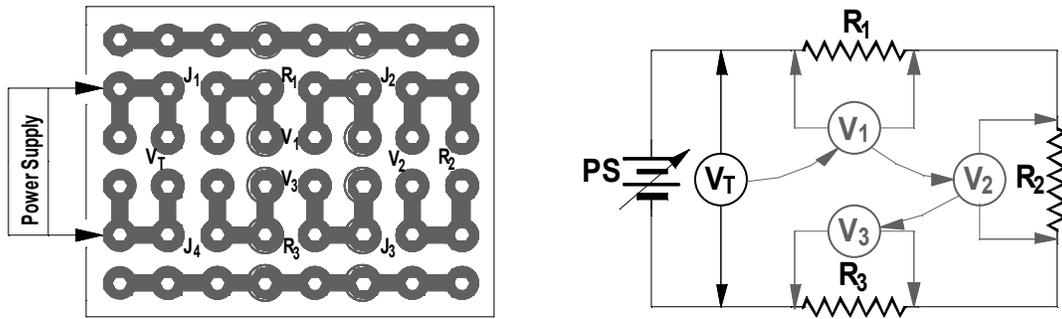

Figure 11. Wiring aid and schematic diagrams for measuring voltages across resistors in series and separately.
10. Use your 3 resistor values from your 3 slope measurements and Equation (11) to calculate the total resistance of your 3 resistors connected in series. Enter your result in your spreadsheet and compare it with the measured value of slope. Compute the percent difference between the measured and calculated values.
11. Derivation of Equation (11) was based on Equation (5), that the total voltage, V_T across resistors in series is equal to the sum of the individual voltage drops across each resistor. Verify Equation (5) by measuring the total voltage, V_T , and the voltages across each resistor, V_1 , V_2 , and V_3 . To do this, wire the power supply, voltmeter, and resistors in series as shown in Figure 11. Begin with the voltmeter inserted at the V_T position. Set the power supply at 5 volts and measure the total voltage, V_T , across the 3 resistors. Record your result after modifying your “Series Resistor” worksheet as copied from the “Parallel Resistor” worksheet to reflect the measurement of voltages. See Figure 12.